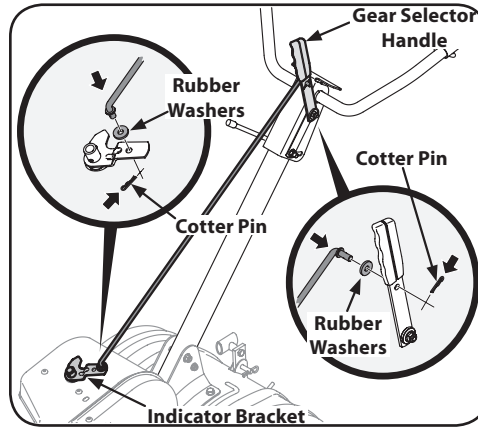

Figure 3-7
- Insert the shorter (angled) end of the control rod through the indicator bracket on the shift cover and secure with the cotter pin that was previously removed. See Figure 3-7.
- Insert the longer end of the control rod through the hole in the gear selector handle and secure with the cotter pin. See Figure 3-7.